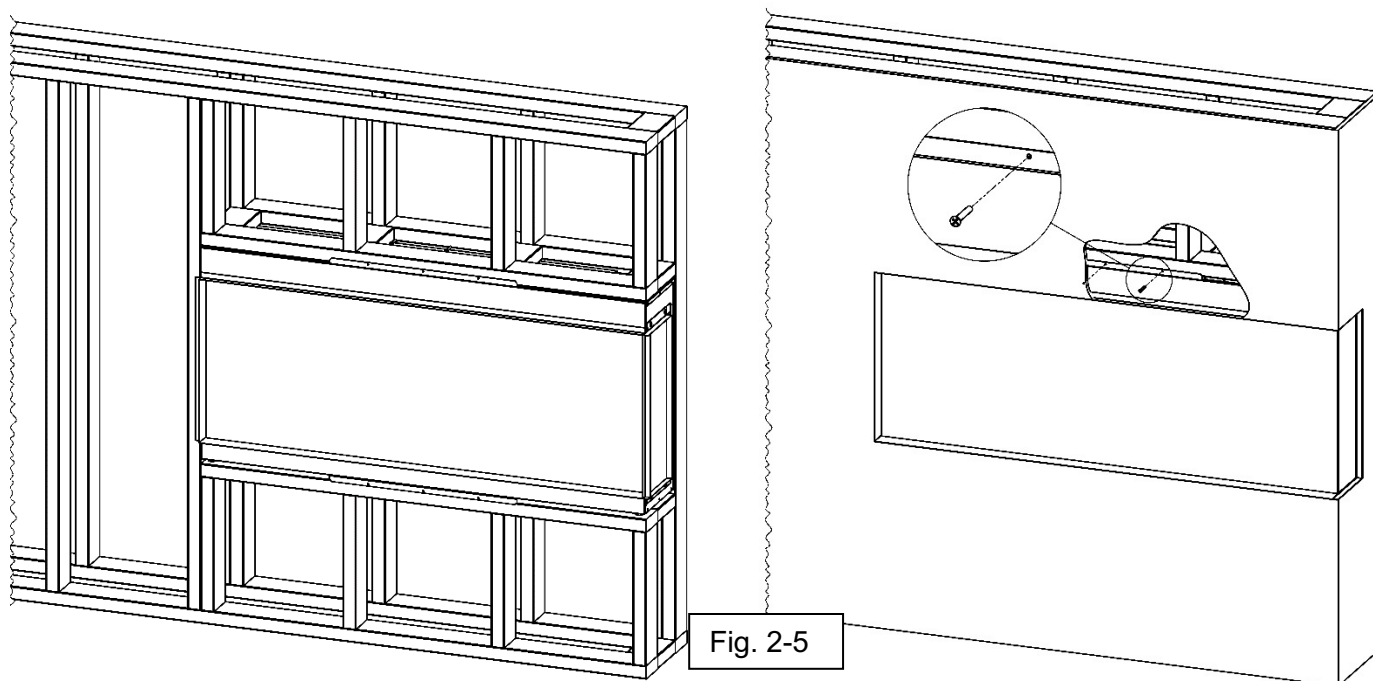

Fig. 2-5
- Fasten the fireplace to the framing using the “L” Metal Nailing Flanges and drywall screws that have a minimum length of 1-1/4” (Fig. 2-5).